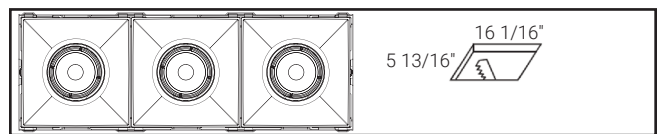

Figure 7.
- 3 Light Engine: 16 1/16" X 5 13/16" (Figure 7)